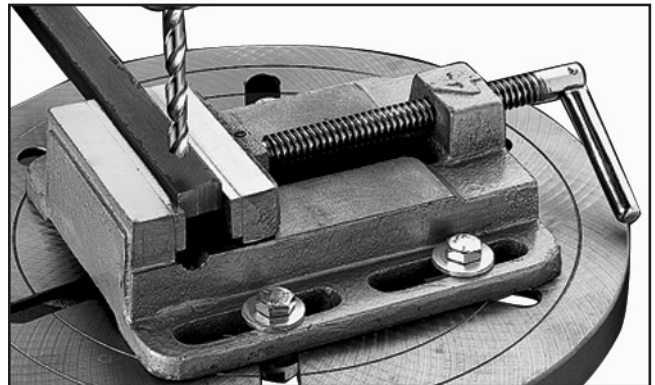

Figure 2. Example of drilling the workpiece.
3. Situate the workpiece beneath the drill and secure it in the vise (see **Figure 2**).